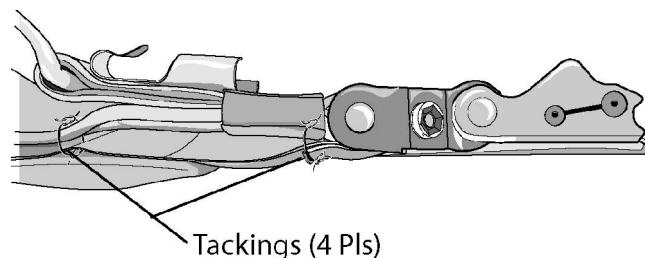

Figure 6. Anti-Rotation Strap Tackings
- c. Tack risers to anti rotation strap in 4 places with 1 turn single FF thread waxed (Figure 6).